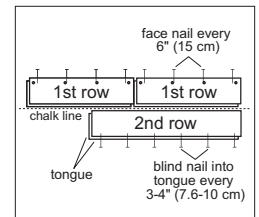

Figure 7
- Use the longest, straightest boards available for the first two rows. For random and alternate width products, use the widest plank for the first row. Align tongue of first row on chalk line. The groove should be facing the starting wall. Pre-drill 1/2" (13 mm) from back (groove) edge, 1-2" (2.5-5 cm) from each end, and at 6" (15 cm) intervals when possible (Figure 7). Fasten using 4 or 6d finishing nails or 1" (2.5 cm) pneumatic finish nails/brads. Countersink the nails.